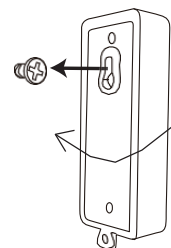

Figure 1
- Make the first screw on the wall, align the hole on the bottom of the wall switch with the screw position and hang it (Figure 1).